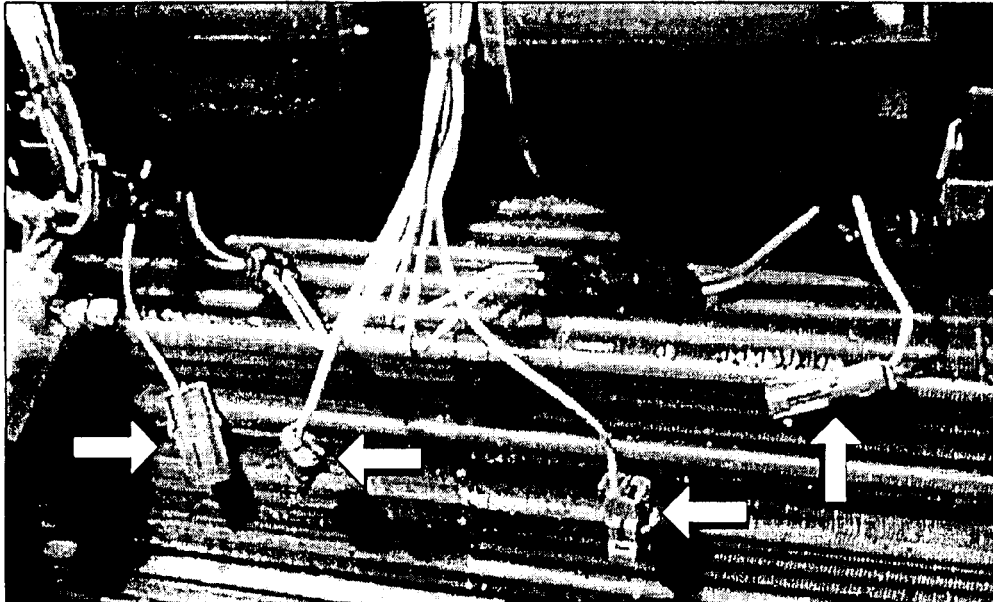

Figure 4.
- 7. Disconnect the three connectors leading to each of the existing control modules. Drill out the two rivets holding the existing modules in place. Remove and retain the existing modules, **as they are required to be returned to MCI**. Connect the two wire receptacles from the coach harness directly to the motor plugs (Figure 4).